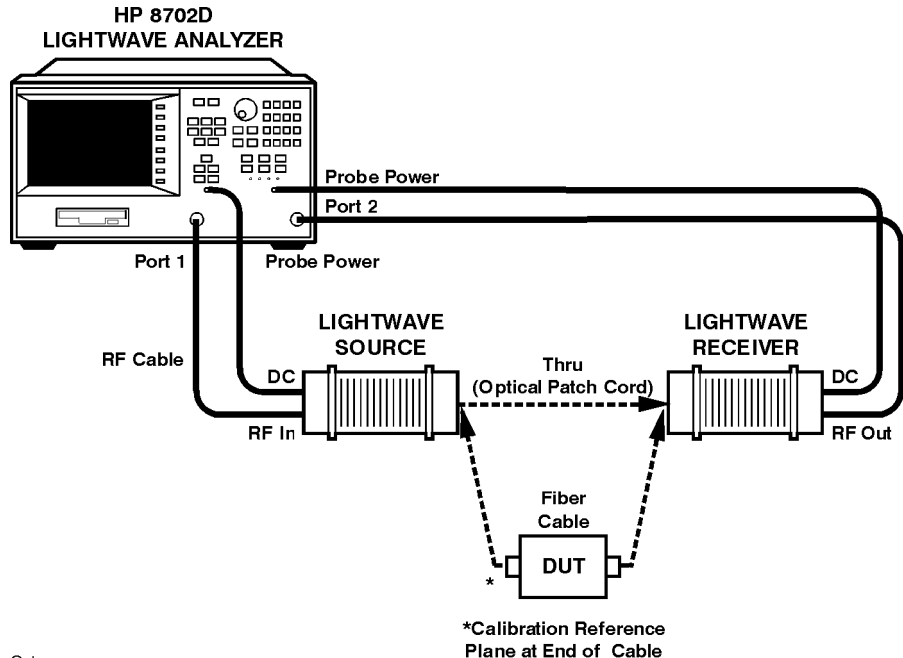

Figure 5-1. Optical Cable Transmission Measurement Configuration
- 1 Connect the system with the thru optical cable as shown in Figure 5-1. Do not connect the device under test.